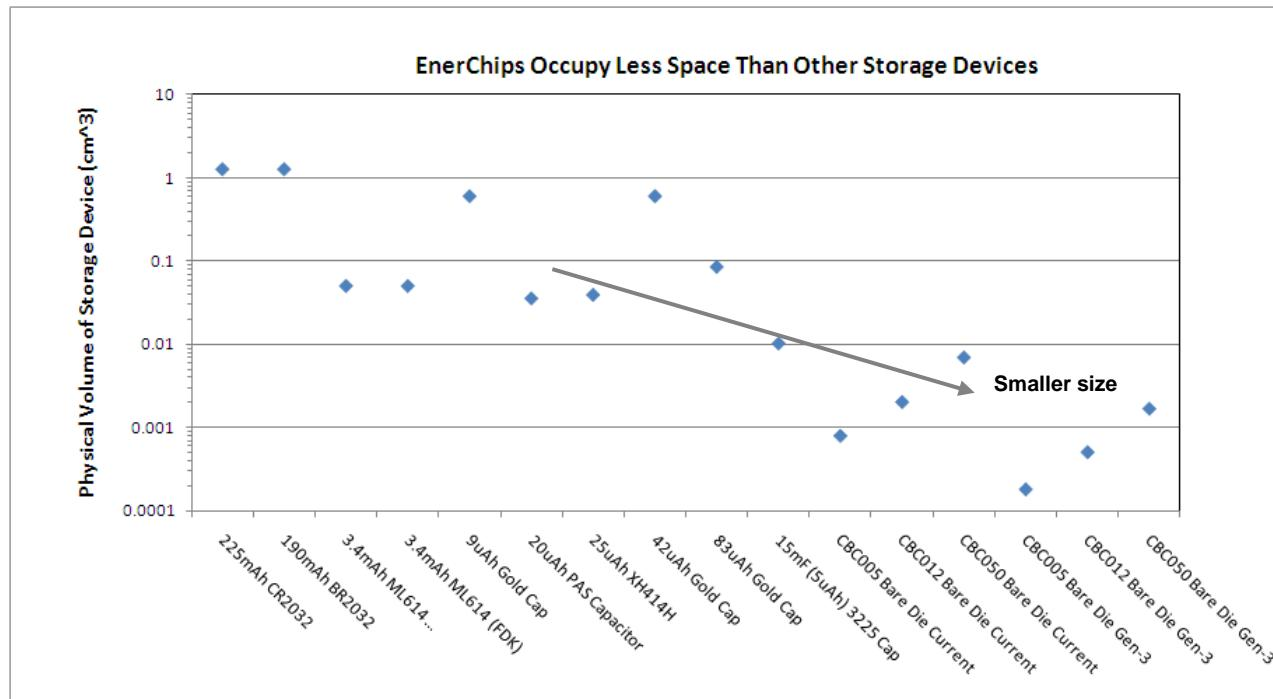

Figure 4: Comparing Device Volume ( $\text{cm}^3$ ) of Coin Cells, Supercapacitors and EnerChips
- Compare the size of the energy storage devices in terms of board footprint and height: Footprint x thickness = device volume. Figure 4 shows the comparison of a variety of commonly used Coin Cells, Supercapacitors and EnerChips that would be used in power back-up applications. Each of the devices has the energy storage capacity to perform the energy transaction required by the back-up application. **Note that EnerChips have smaller physical volume compared to Supercapacitors.**